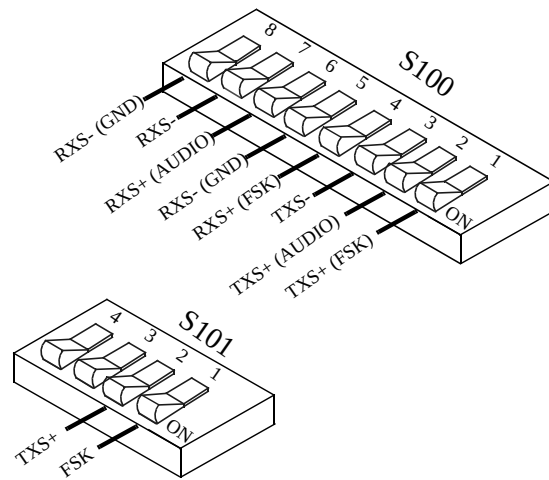

Figure 7-12 S100 SETTING
1. Set MAC S100 and S101, all Sections OFF (see Figure 7-12).